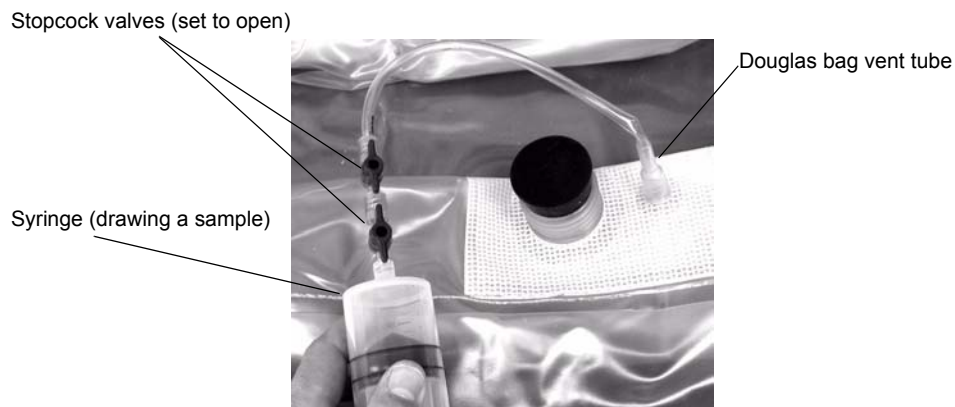

Figure 4-9. Syringe connected to draw a sample
2. Using a 140 ml syringe with a stopcock valve attached, draw a sample of expired gas from your Douglas bag (see Figure 4-9).